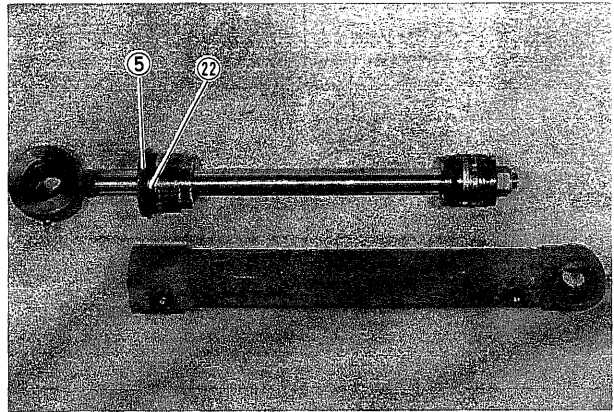

Fig. 118
- (2) Flatten out lock washer (22), screw out and remove cylinder head (5) from cylinder and pull off piston rod assembly. (Fig. 118)